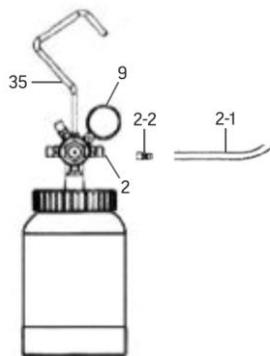

Fig. 2
5. Connect the handle (#35) to the top of the centrepost assembly by turning it clockwise (Fig. 2).
6. Connect the air hose (Fig. 2-1) from the compressor to the air connection (#2) and secure (Fig. 2).
7. Set the air pressure at the compressor to approximately 45 PSI. Confirm this by reading the air gauge (#9) (Fig. 2).